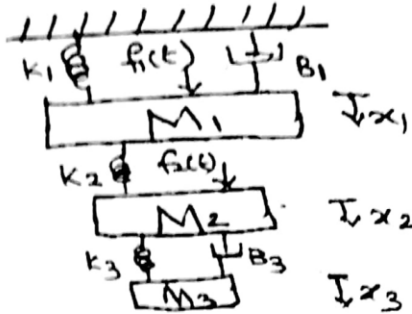

Figure.1.
11. (a) Write the differential equations governing the mechanical translational system shown in figure 1. Draw the electrical equivalent analogy circuits. (16)